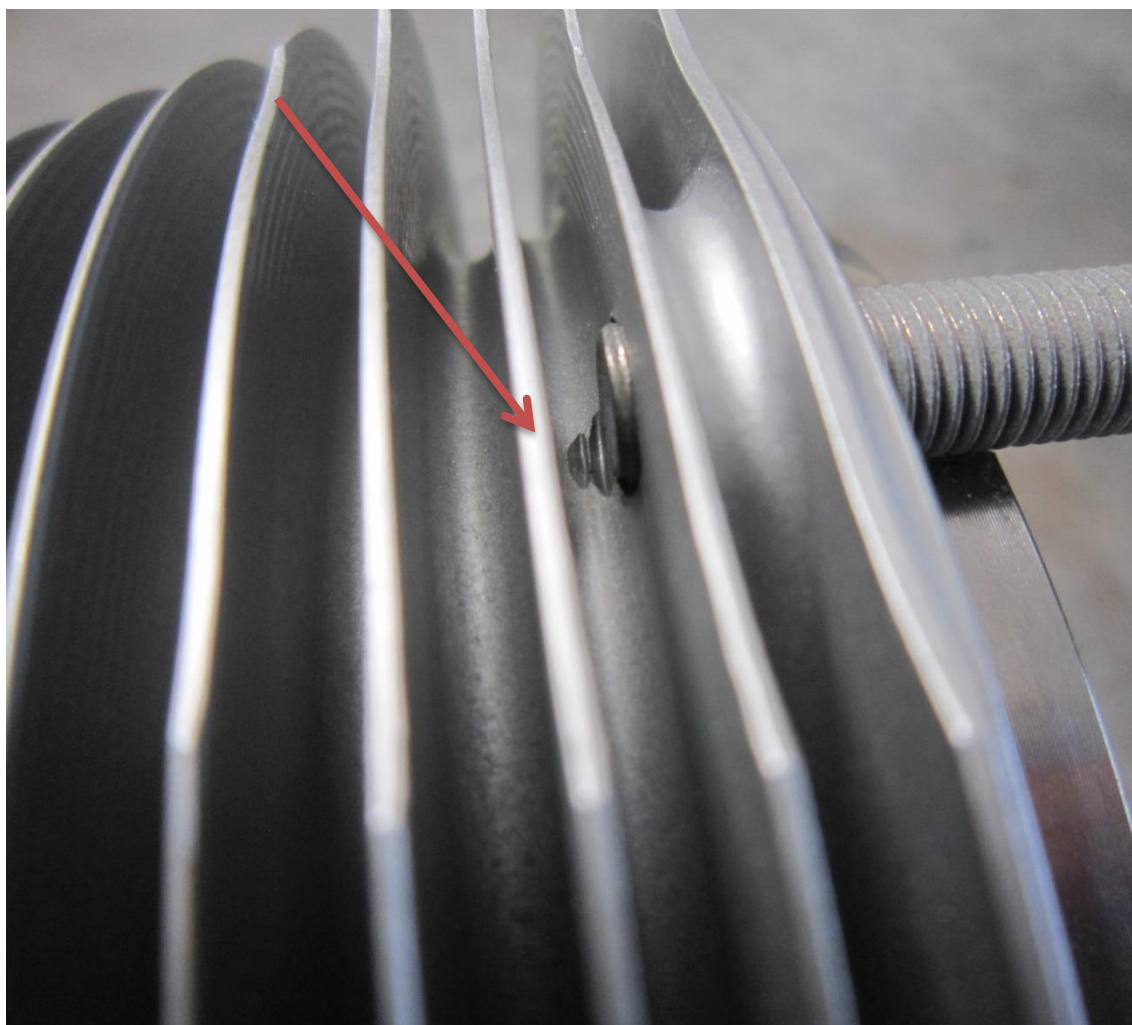

Figure 1: Bolt against end of usable thread, any further tightening will damage bolt thread.
- The first step is to observe how far the end of each attachment-bolt protrudes out of the threads in the cylinder-barrel (see Figure 1 above).